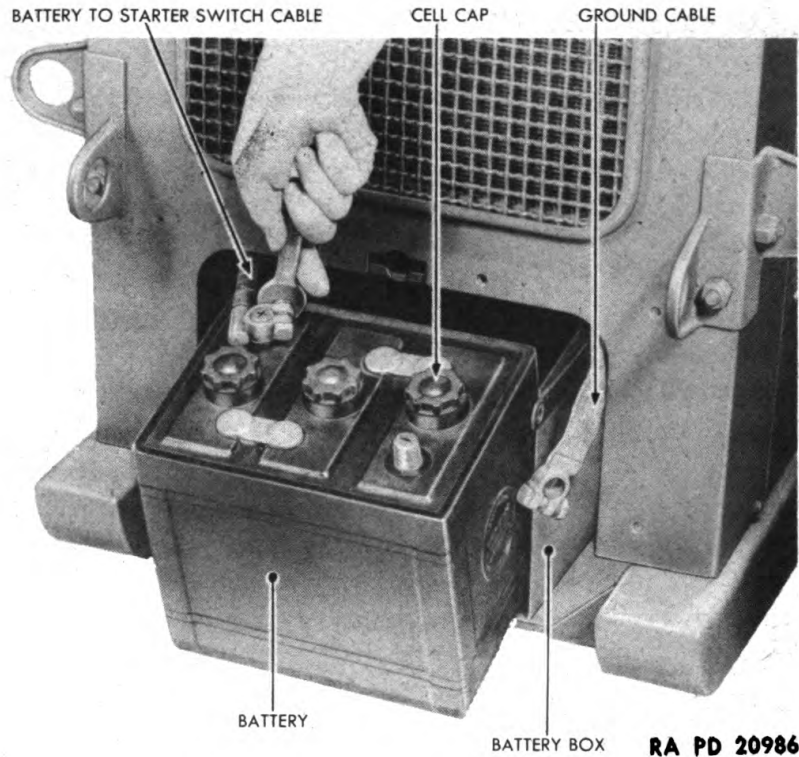
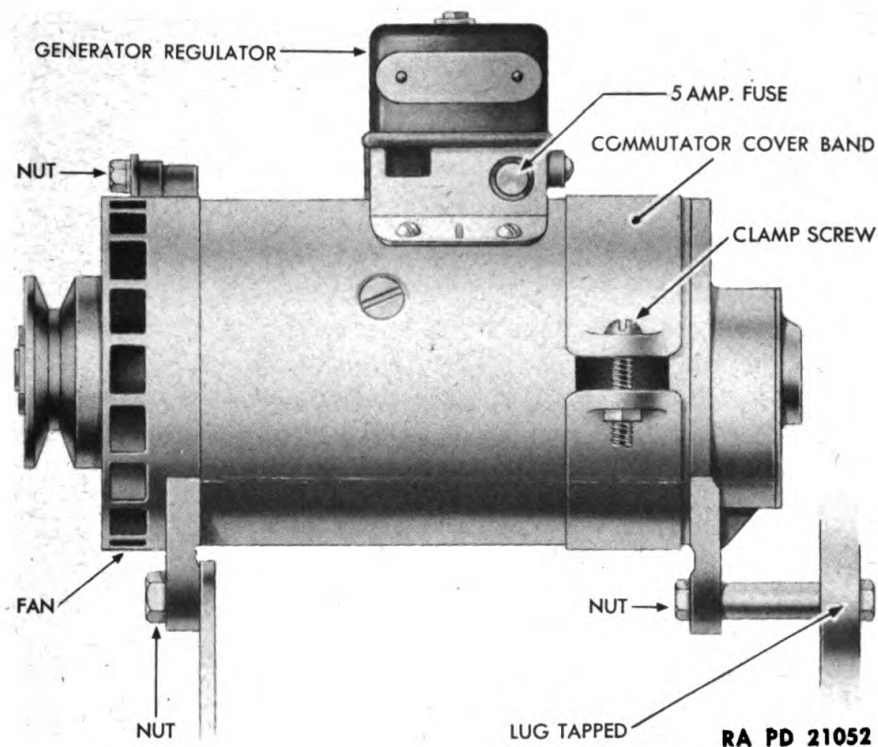

Figure 28 — Battery Removal
Figure 29 — Battery-charging Generator
56. BATTERY (fig. 28).
d. Battery Replacement (fig. 28).
(1) Remove battery cover and the tie bolt securing battery in battery box and slide battery out as far as cables permit.
(2) Loosen starter switch cable terminal and ground cable terminal on battery posts and lift off terminals. If the terminals are corroded and will not come off readily, spread them with a wedge.
(3) When replacing a battery, note that the cable from the starter switch is connected to the positive "+" or larger post and the ground cable is connected to the negative "-" post. Be careful not to damage the top of the battery as it is thin and somewhat brittle.
57. BATTERY-CHARGING GENERATOR AND GENERATOR REGULATOR (fig. 29).